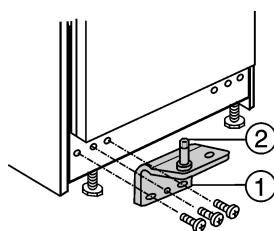

Fig. 9
- Place the hinge pin Fig. 9 (2), which is in the bearing bracket Fig. 9 (1) with the washer, inside the lower door bearing.
- Screw the turn hinge Fig. 9 (1) firmly into place (with 4 Nm).